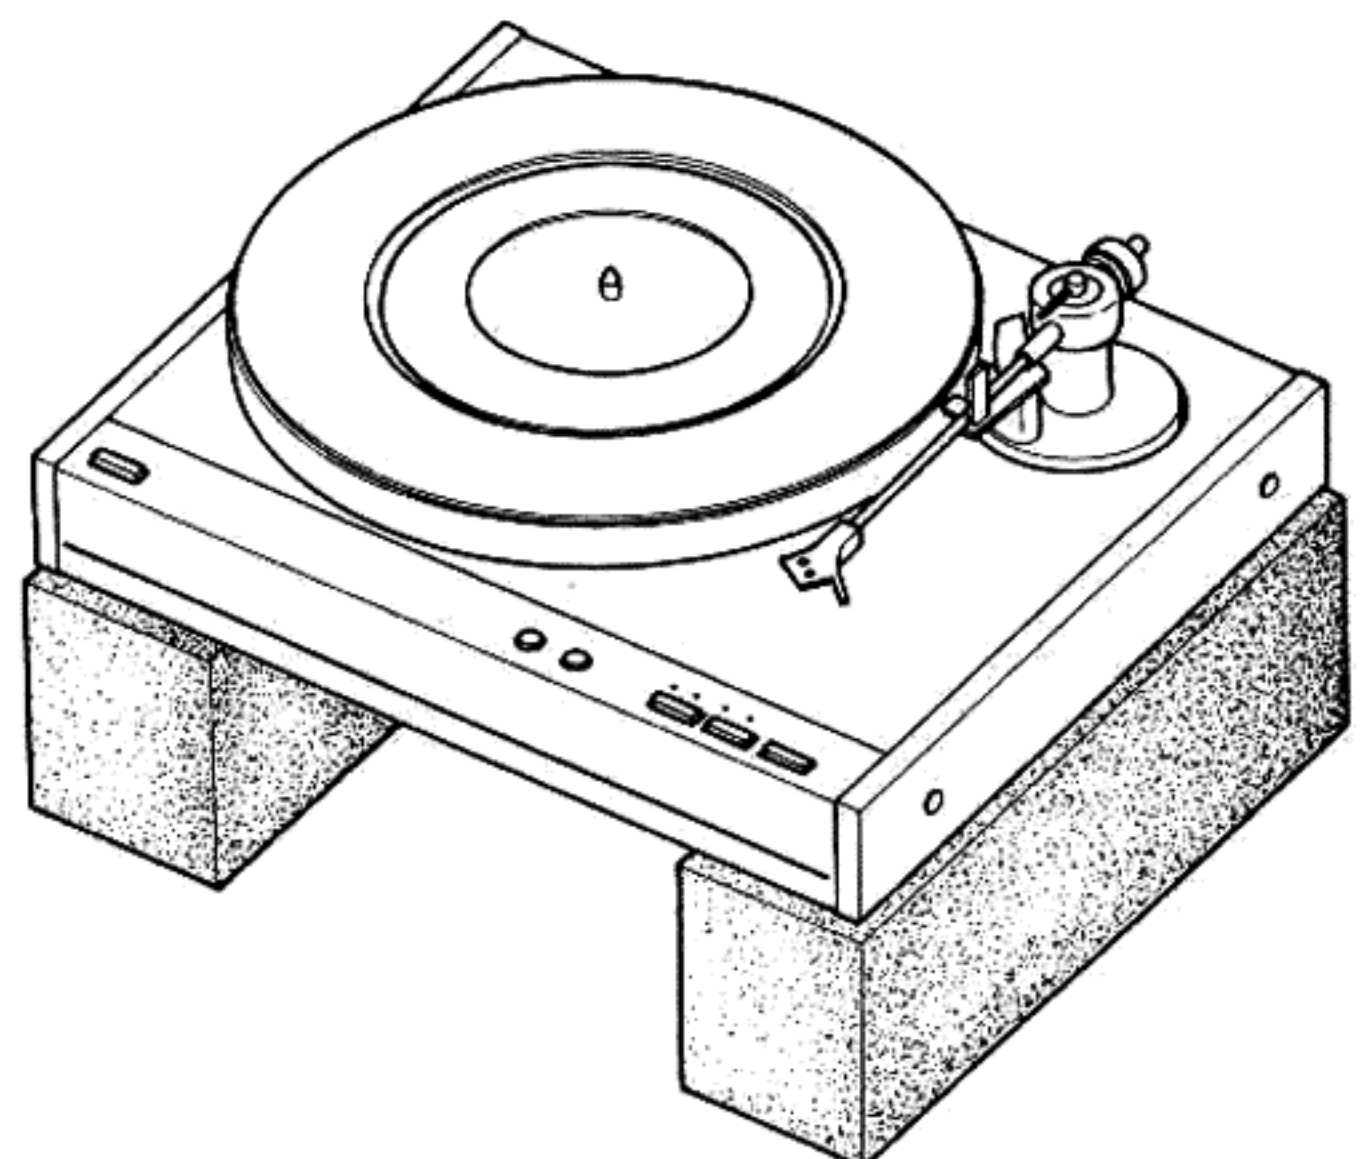

Figure-3
2. Put the unit on stands as shown in figure-3. (This is to gain access to the control PWB.)